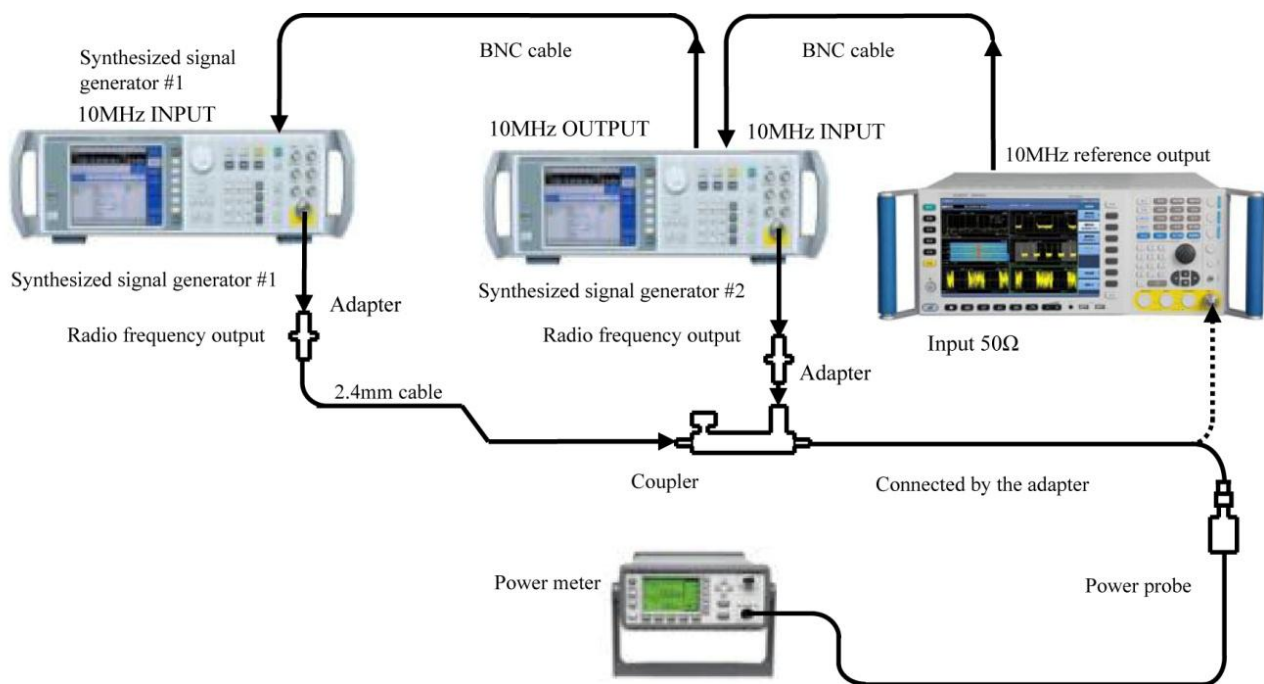

Fig. 8.13 Schematic diagram of 1 dB gain compression test
- 4) Connect the instrument according to solid lines in Fig. 8.13 with the output of the RF direction couple connected via the adapter to the power sensor.
- 6) Change the connections in the test according to dotted lines in Fig. 8.13, turn on the output of synthesized signal generator #2 and adjust the power level of synthesized signal generator #2 to display the signal peak 2 ~3 divisions under the 4051 reference level.
- 10) Connect the instrument according to solid lines in Fig. 8.13. Set the center frequency of the 4051 analyzer as 100 MHz, the frequency of synthesized signal generator#1 as 103 MHz and the frequency of synthesized signal generator#2 as 100 MHz.
- 13) Connect the instrument according to solid lines in Fig. 8.13. Set the center frequency of the 4051 analyzer as 200 MHz, the frequency of synthesized signal generator#1 as 2.003 GHz and the frequency of synthesized signal generator#2 as 2 GHz.
- 17) Connect the instrument according to solid lines in Fig. 8.13. Set the center frequency of the 4051 analyzer as 5 GHz, the frequency of synthesized signal generator#1 as 5.003 GHz and the frequency of synthesized signal generator#2 as 5 GHz.
21) Connect the instrument according to solid lines in Fig. 8.13. Set the center frequency of the 4051 analyzer as 15 GHz, the frequency of synthesized signal generator#1 as 15.003 GHz and the frequency of synthesized signal generator#2 as 15 GHz.